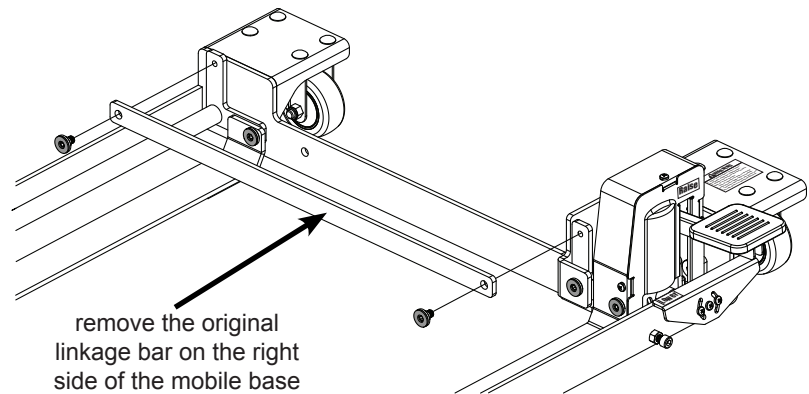

Fig. 2
2. Repeat the previous step to remove the original linkage bar on the right side of the mobile base (see Fig. 2).